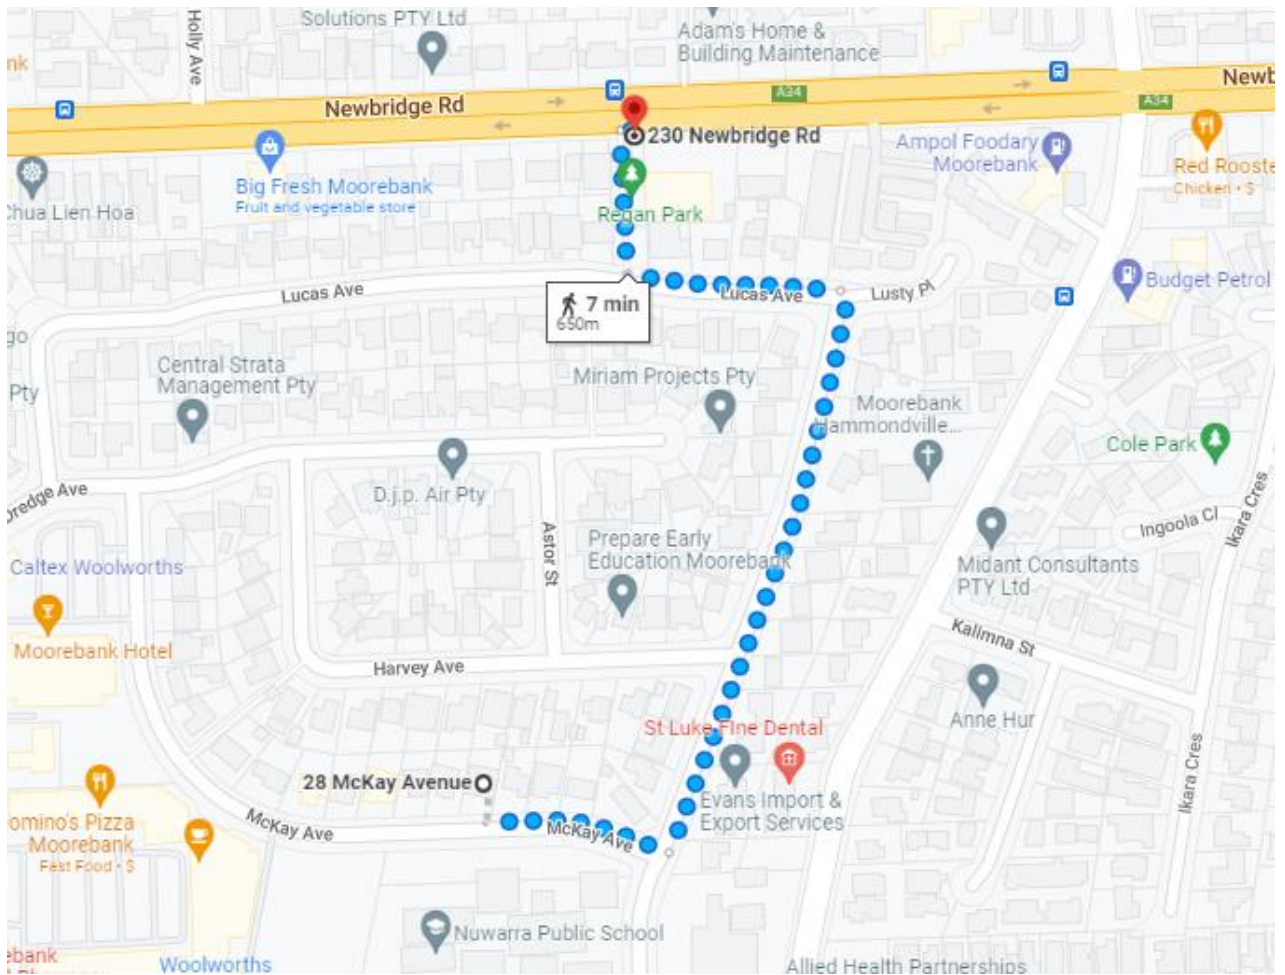

Figure 2-2 Subject Site to 230 Newbridge Rd bus stop (from Google maps)
2. It takes 7 minutes walking (650m) from the site to 230 Newbridge Rd bus stop (refer to Figure 2-2).